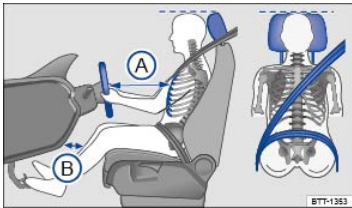

Fig. 22 Proper safety belt positioning and head restraint adjustment. The driver should never sit closer than 10 inches (25 cm) from the steering wheel.
- Adjust head restraints so that the upper edge of the head restraint is at least at eye level or higher. Position the back of your head as close as possible to the head restraint ⇒ Fig. 22 (dotted line).
- Adjust the steering wheel so that there are at least 10 inches (25 cm) between the steering wheel and your breast bone ⇒ Fig. 22Ⓐ, ⇒ Steering wheel. When adjusting the proper distance to the steering wheel, grasp the top of the steering wheel with your elbows slightly bent.
- Adjust the driver's seat so that you can easily push the pedals all the way to the floor while keeping your knee(s) slightly bent. The distance to the instrument panel in the knee area must be at least 4 inches (10 cm) ⇒ Fig. 22Ⓑ.